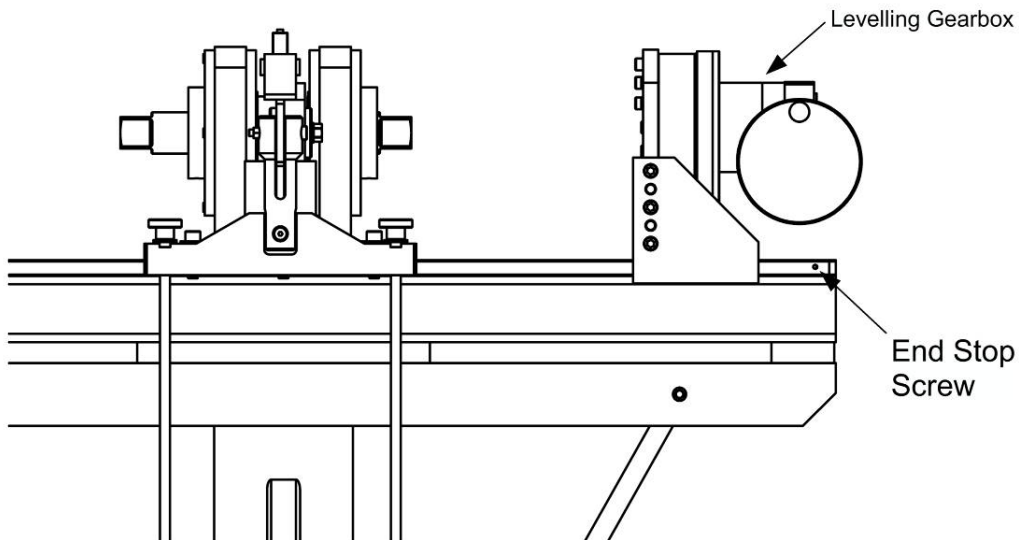

Figure 4. Location of levelling gearbox.
- 3.2 Line up the levelling gearbox with the slots in the pedestal bed then slide on. Ensure drive square input is facing beam as shown in figure 4.